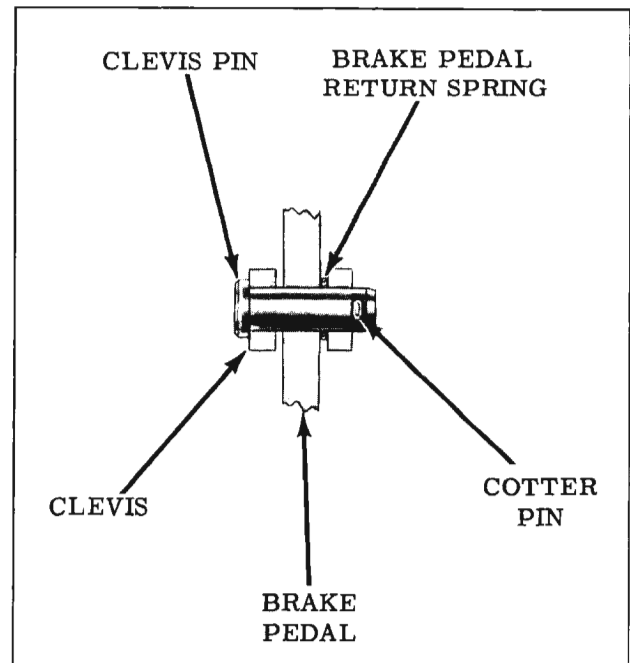

Fig. 7-110 Brake Pedal Clevis Pin
3. Install the clevis pin. (Fig. 7-110)